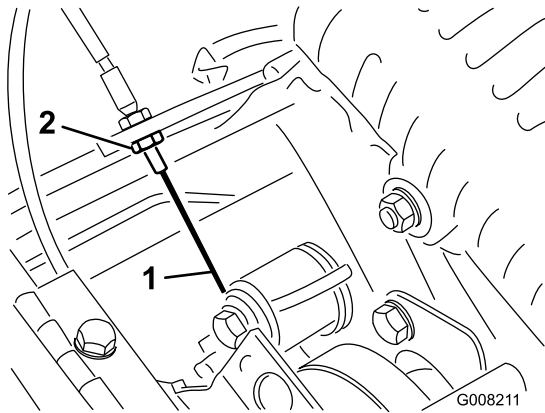

Figure 43
3. To increase the cable tension, loosen the front cable jam nut and tighten the back cable jam nut (Figure 43) until a force of 3 to 4 kg (7 to 9 lbs) is required to engage the traction control. Measure the force at the control knob.